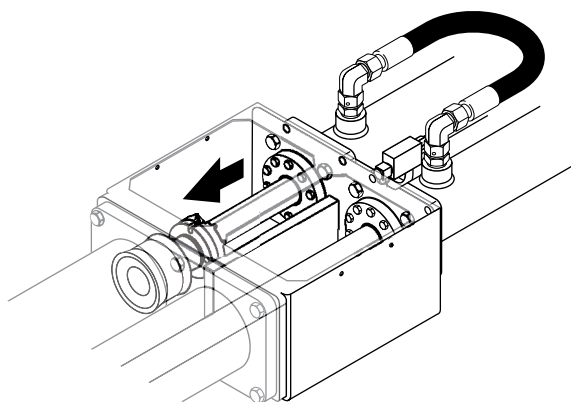

Figure 21
8. Restart the engine and clear the E-stops. Press the concrete pump forward or reverse button and Ram Change Mode button simultaneously to slowly extend the cylinder rod until it just contacts the rubber ram flange (Figure 21). Release the concrete pump forward/reverse or Ram Change button to stop the differential cylinders. Shut off the engine.